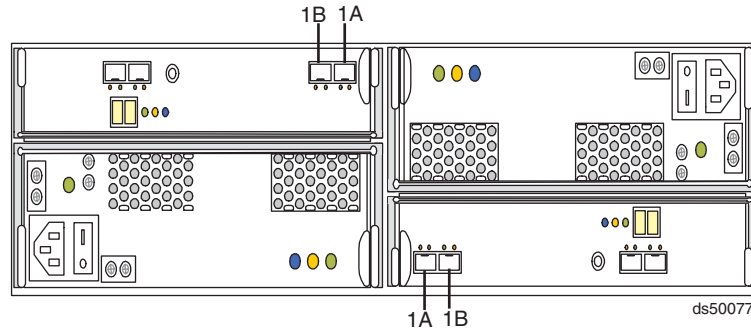

Figure 47. EXP5000 port labels
3. The DS5100 and DS5300 controller drive port must always be connected to the EXP5000 port labeled 1B. Because the left and right EXP5000 ESMs (ESMs A and B) are inserted in the ESM bays in different orientations, you must look for the port labeled 1B before making the fibre channel connections. Figure 47 shows the port labels on the EXP5000.